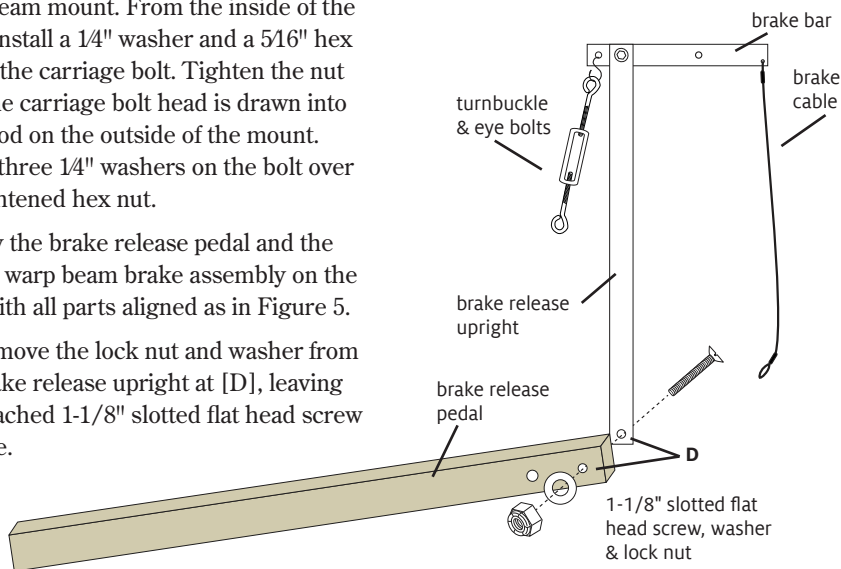

FIGURE 5: ASSEMBLE BRAKE RELEASE PEDAL AND DOUBLE WARP BEAM BRAKE ASSEMBLY
11. Lay the brake release pedal and the double warp beam brake assembly on the floor with all parts aligned as in Figure 5.